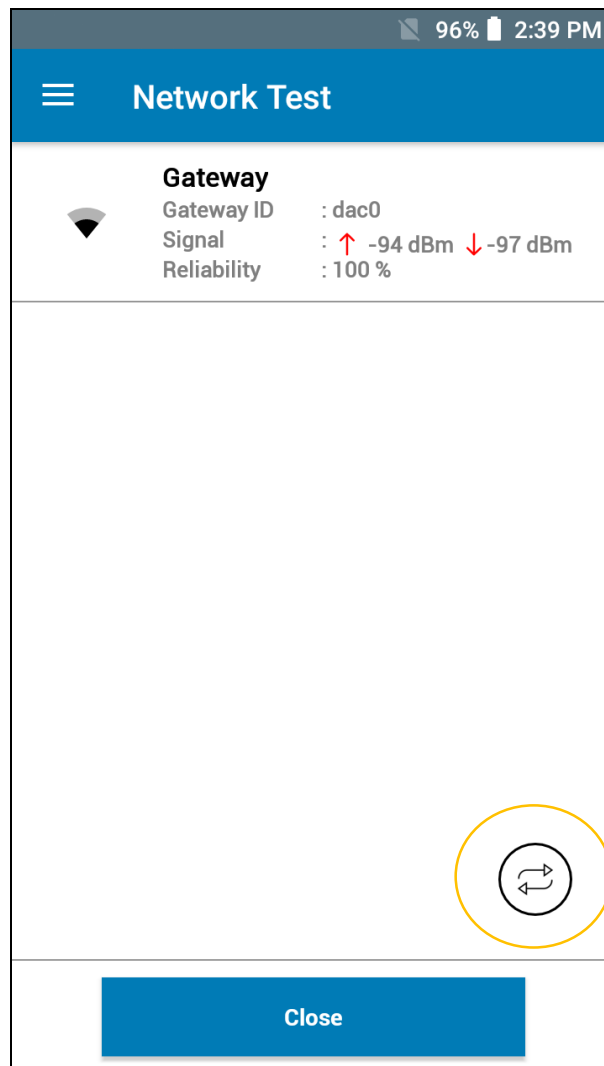

Figure 3-46
10. After receiving the Network Test information, network test can be performed by pressing the 'Refresh' button located at the lower right corner to check the Signal Strength (for uploading data) as highlighted in the figure 3-46. Once the signal strength received is around -90 to -100 dBm, the Node can be installed at that location.
NOTE: The refresh button (encircled in blue in figure 3-46) needs to be pressed every few minutes to update the Signal Strength.